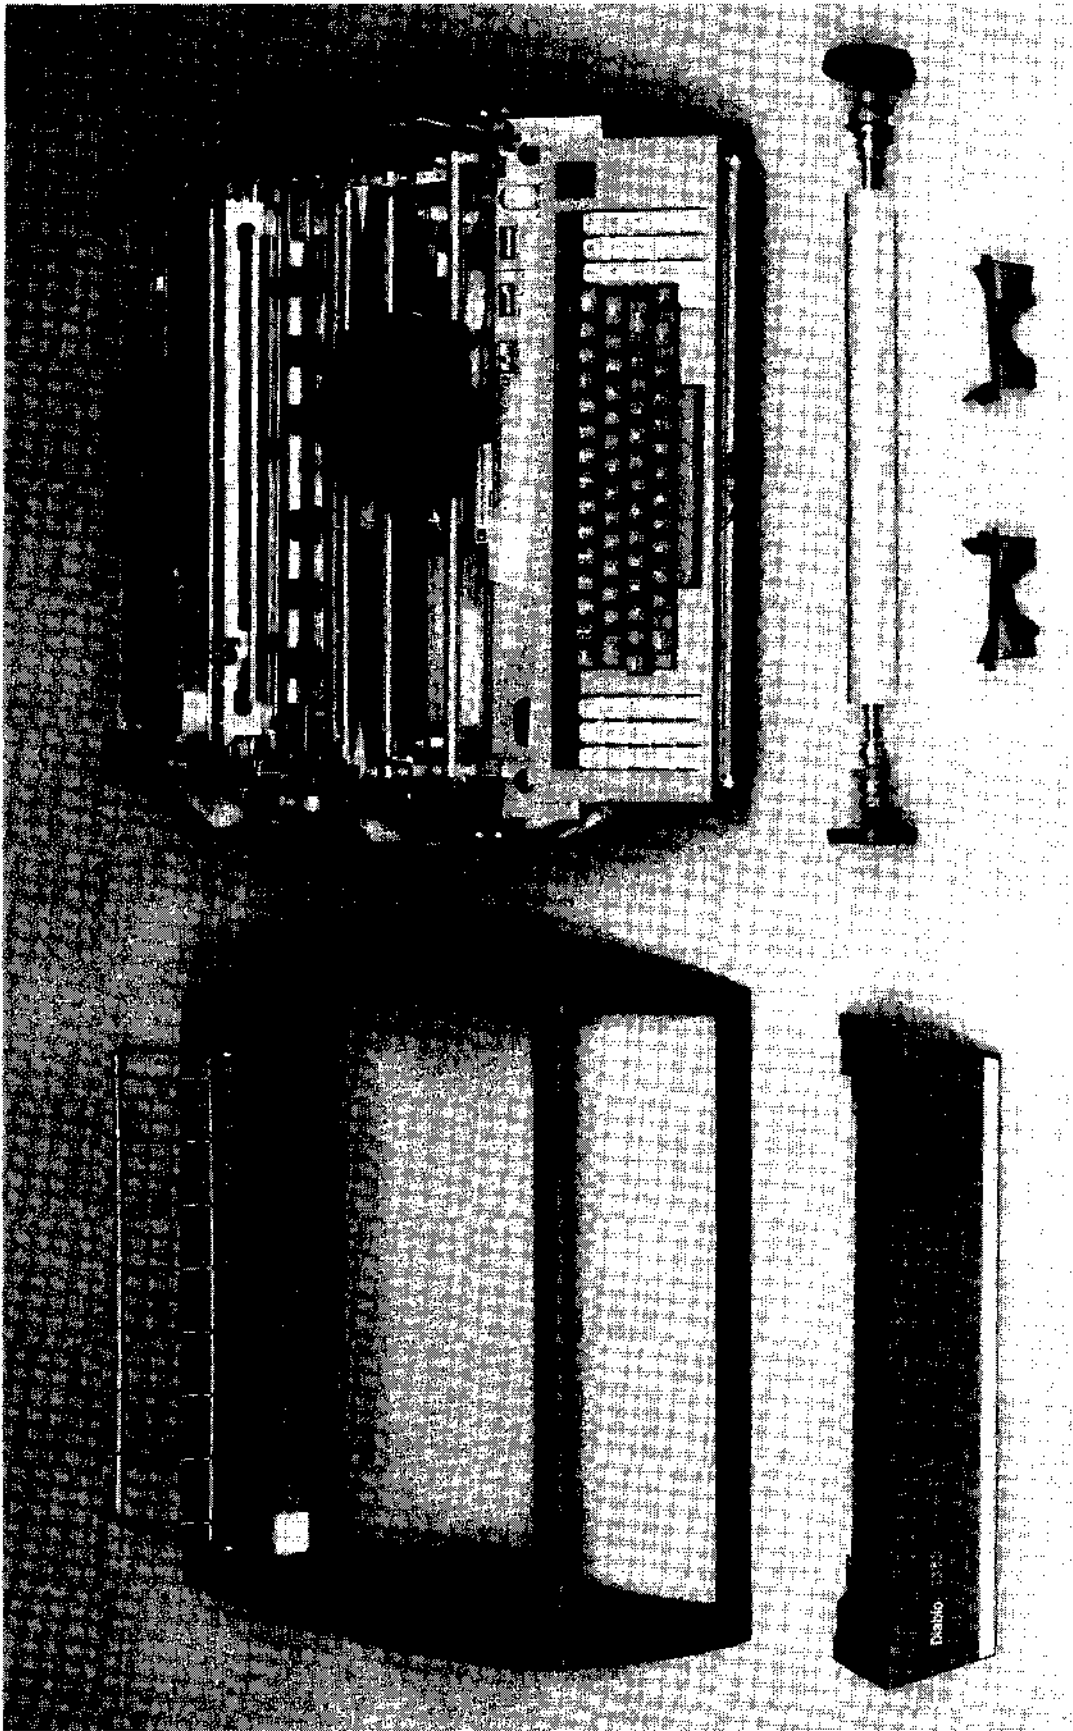

Figure 3-0. HyTerm with top cover removed
Refer to Figure 3-0.
- (1) Turn the power off and unplug the cord from the ac outlet.
- (2) Remove the top cover accessories: the access cover and the plastic platen skirts over the ends of the platen shaft (see Figure 3-0).
- (3) Remove the platen: grasp the platen knobs in both hands, press down on the platen latches with your thumbs, and lift the platen straight up.
- (4) Release the top cover by pulling forward on the two latches inside the cover at both sides, just in front of the platen. Lift the top cover straight up and free from the printer.